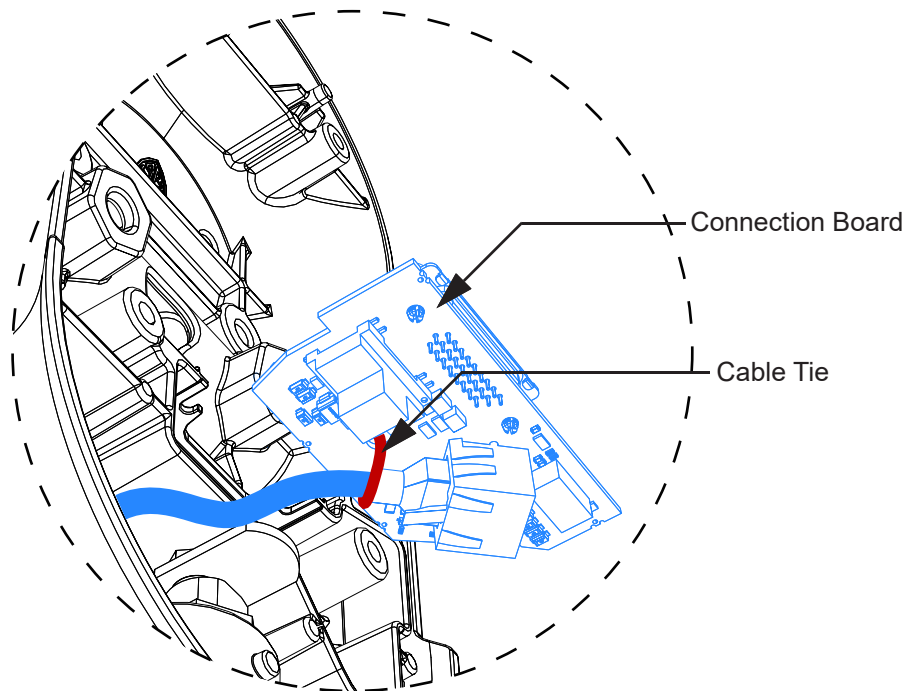

Figure 3-69 Cable Connection
Step 11 Secure the plug to the connection board with a cable tie, see **Figure 3-69**.